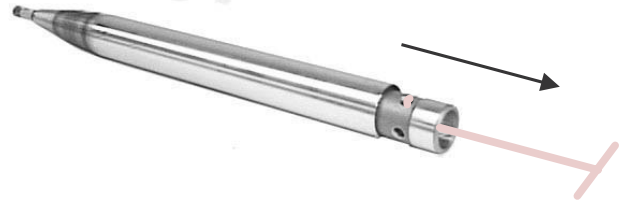

Figure 8-4. Access The Striker With a Long Hook.
4. Remove the Striker (2) from the Body/Anvil (1):
- a. If it is unsafe or impractical to lift the Body/Anvil and Striker, use a long hook to pull the Striker out of the Body/Anvil about six to eight inches as shown in Figure 8-4. Otherwise, perform step b.